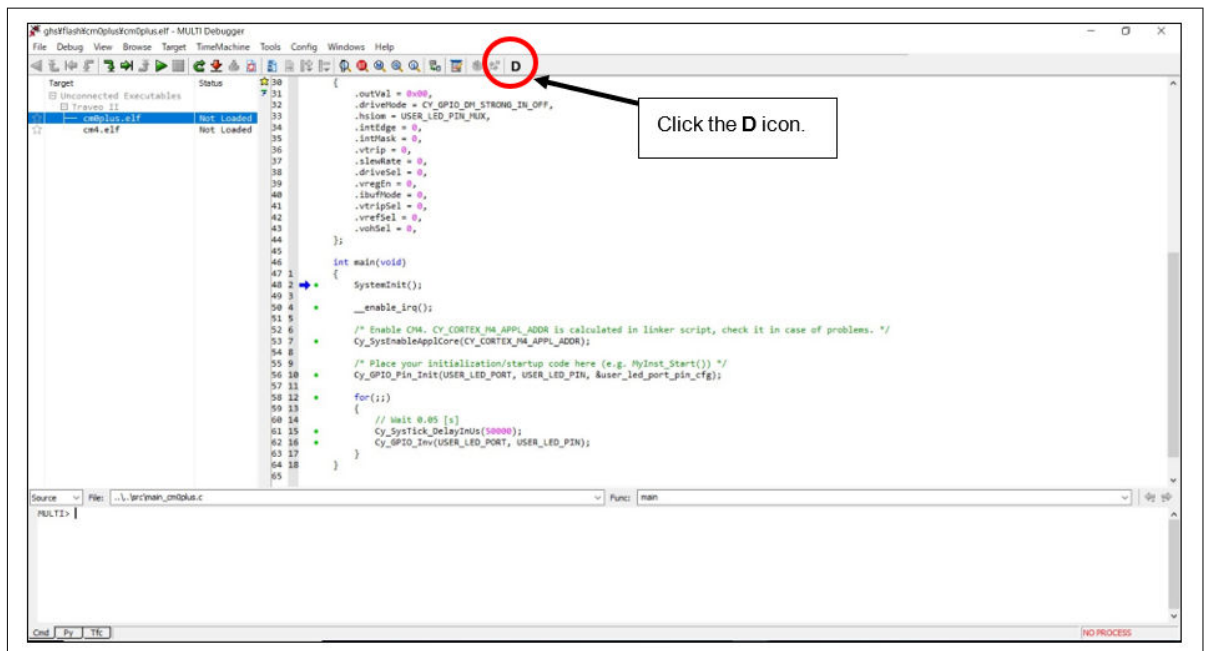

Figure 17 Debug the project of SDL project
- To enable the SDL project to detect the debugger script, click the **D** icon as shown in Figure 17.